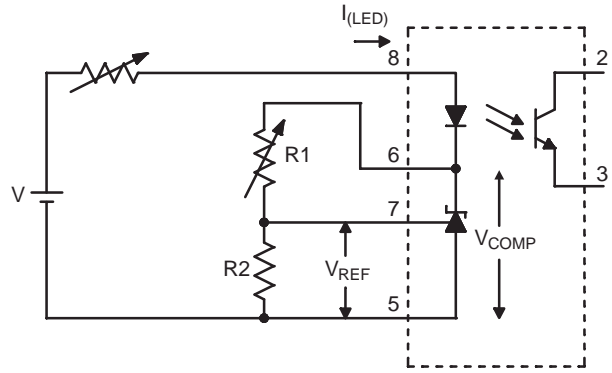

Figure 3. $\Delta V_{REF} / \Delta V_{COMP}$ Test Circuit
5. The dynamic impedance is defined as |Z_{OUT}| = ΔV_{COMP} / ΔI_{LED}. When the device is operating with two external resistors (see Figure 3), the total dynamic impedance of the circuit is given by: